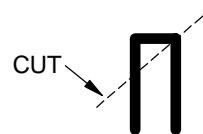

Figure H-15A
- ❑ 1. Cut an 10.5" (280mm) length of Fuel Tubing (176) from the piece supplied.
- ❑ 2. Cut one end of the 10.5" piece of Fuel Tubing at a 45° angle as shown in Figure H-15A. Install the uncut side of the tubing to the forward fitting on the top of the Fuel Tank (30).
- ❑ 3. Wind the Fuel Tubing into a small loop and insert it into the rectangular slot in the chassis brace (29) as shown and clip the Fuel Line into the Fuel Line Clip (84) on the Chassis. Insert the cut end of the tubing into the inside (small) hole in the tuned pipe. This fuel line will serve as the fuel tank pressure line.